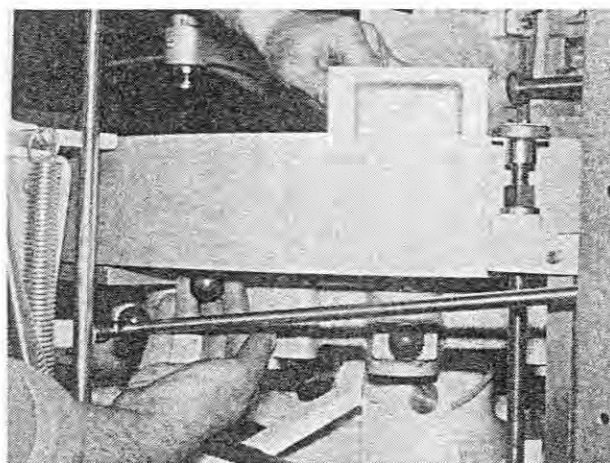

Fig. 156
20. Pull back the retaining plate on the lower side of the rotary table. Pull out the cell element (Figure 156).